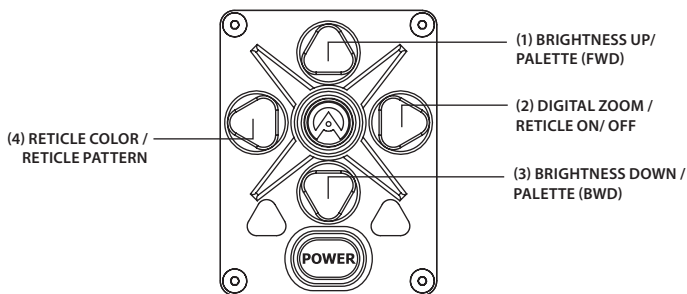

FIGURE 3-23. SETTING BUTTONS
8. Using the buttons on the control panel (Figure 3-23), configure the Prometheus PRO to adapt it to your situation.